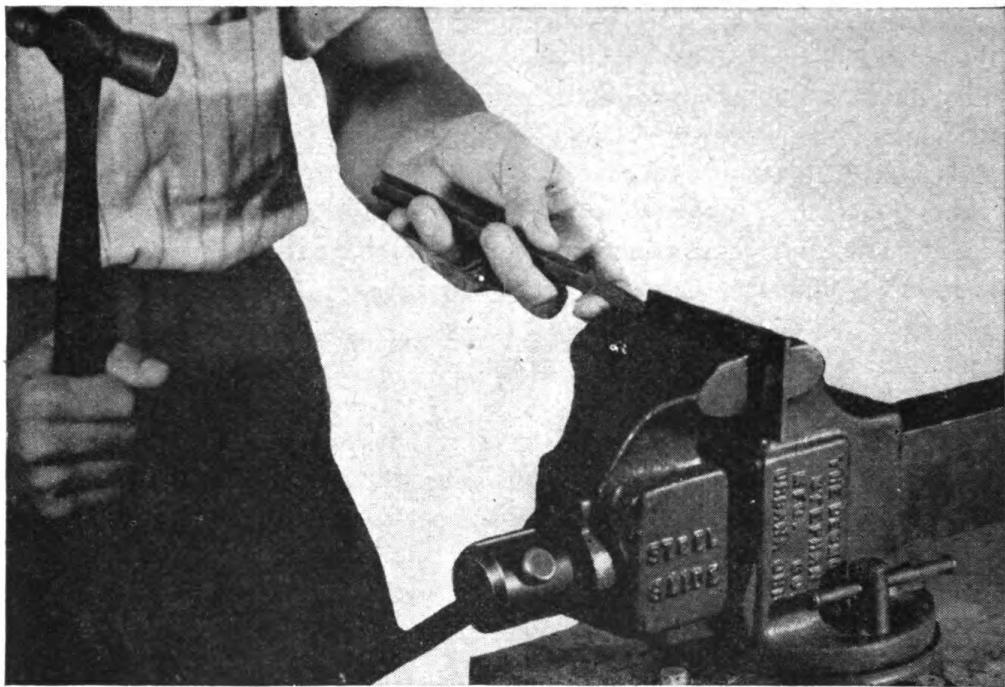
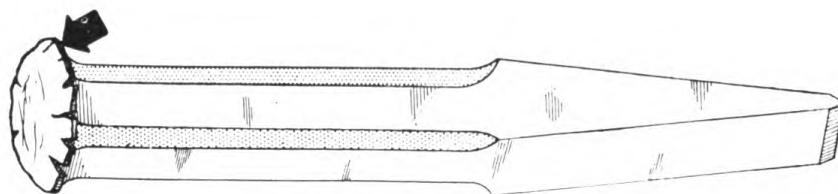

Figure 111. How to hold a cold chisel.
Figure 112. Mushroomed chisel head.
(3) An inexperienced mechanic usually grips the chisel with the thumb and first finger toward the head. An experienced mechanic holds the chisel with the fingers underneath and the thumb on top with the end of the first finger near the cutting edge of the chisel to aid in guiding it. (See fig. 111.) This grip will be found awkward at first, but it will also be found to save the mechanic from bruised knuckles. The cutting edge of the chisel should be kept sharp and at the correct angle for the material being worked. Sixty degrees is the right angle for most steel, about 30° for lead, and intermediate angles for metals harder than lead and softer than steel. Time spent sharpening a chisel correctly is not wasted time.
(4) It is a simple matter to sharpen a cold chisel. Hold it at the correct angle against the grinding wheel. Move it sideways while grinding. Do not press it against the wheel too hard. Dip it in water often enough to prevent overheating.
(5) With use, the head of the chisel will become mushroomed. (See fig. 112.) A chisel in this condition should not be used, as the bent-over edges are brittle and likely to break off and fly, injuring the mechanic or other personnel. To recondition a cold chisel with a mushroomed head, grind the head to the proper shape. Be sure to grind off all the cracks and rolled-over edges. Heat the head of the chisel to a cherry red and allow it to cool slowly. Only the head should be heated as heating the cutting edge will soften it and make it useless.